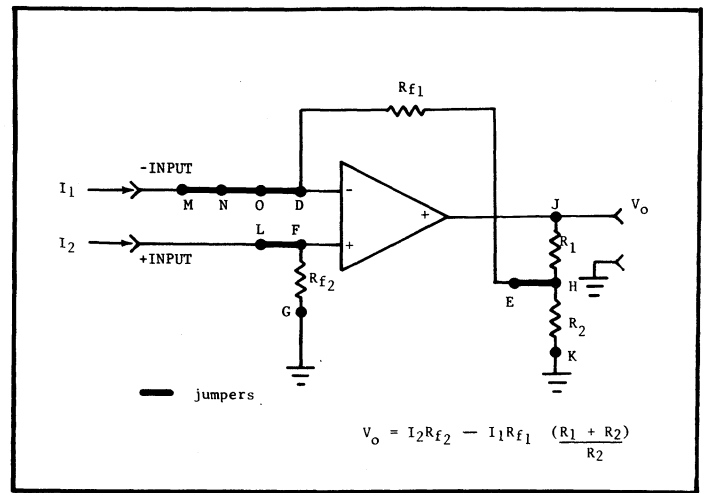

FIGURE 9. Differential Current Amplifier
4. Differential Current Amplifier (With Fractional Feedback). In this mode the output voltage is a function of the difference between input currents I_1 and I_2 where $V_o = (I_2 - I_1)R[(R_1 + R_2)/R_2]$ (assuming $R_{f1} = R_{f2} = R$). Resistor R_1 replaces the jumper between terminals J-H. The value of $R_1 + R_2$ should be greater than 1000 ohms so that the output current does not exceed 11 milliamperes. Connections should be made as shown in Figure 9.